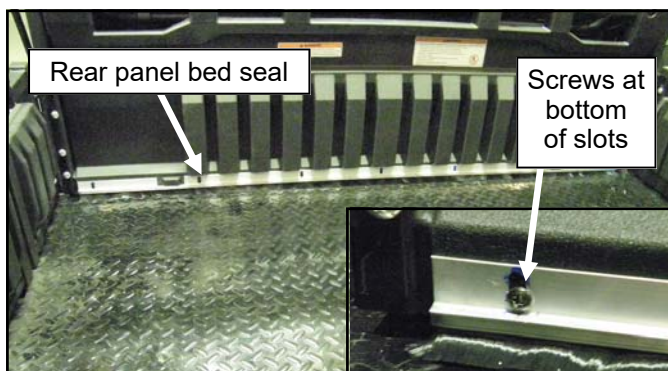

Fig. 2.2 Rear panel bed seal
2.1 Convert the rear seat and cargo bed into the 3-seater, extended bed mode. Per figure 2.2, remove the four Phillips screws from the rear base of the seat assembly.
2.2 Per figure 2.2, place the rear panel bed seal against the bottom rear of the seat assembly. Install (7) self-drilling screws at the bottom of the slots in the aluminum brush holder of the bed seal.